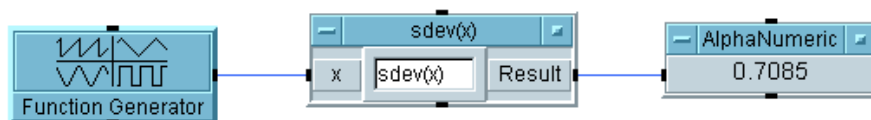

Figure 114 Calculating Standard Deviation
- 10 Run the program. It should look like Figure 114.